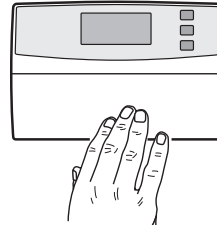

Fig. 7. Mounting thermostat on wallplate.
1. Engage tabs at the top of the thermostat and wallplate. See Fig. 7.